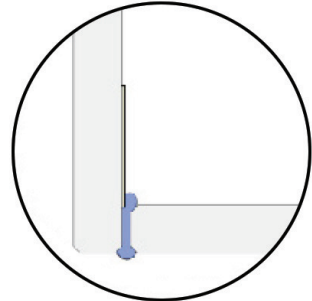

FIG 19.
- Gently place glass to glass panel into siliconed floor channel and tilt gently upwards until it joins to glass to wall panel (FIG 19). Ensure there is no side to side movement while placing panel as this will smear silicone.